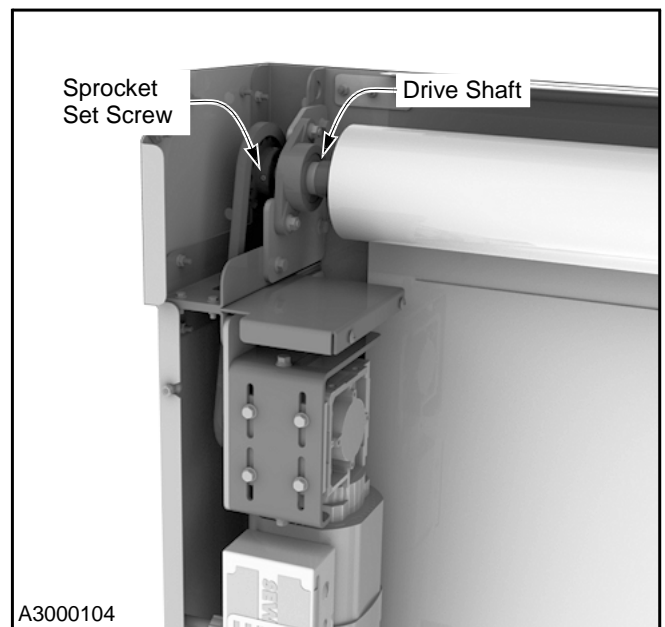

Figure 22
5. Verify the drive motor and drum/fabric roll sprockets are aligned, with adequate clearance on both sides of the chain. After making the necessary adjustments, tighten the set screw that locks the upper sprocket to the drive shaft on the drum/fabric roll assembly. Also verify the set screw on the drive motor sprocket is tightly secured. (See Figure 22.)